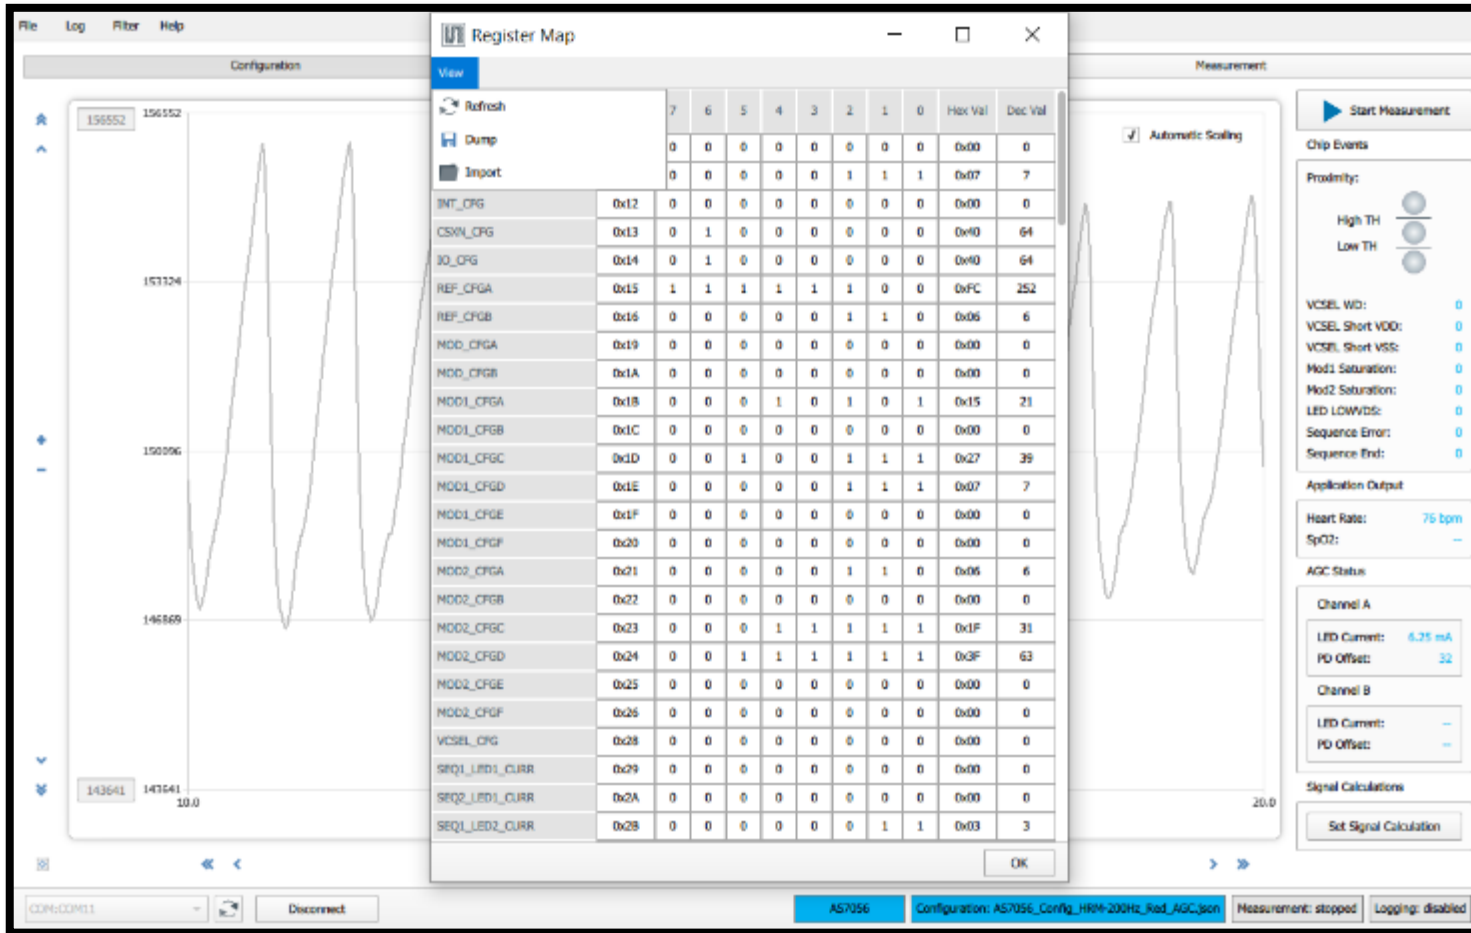

Fig. 21: Register Map
- To check the current register Map, click on the tab File → Register Map (Fig. 21)